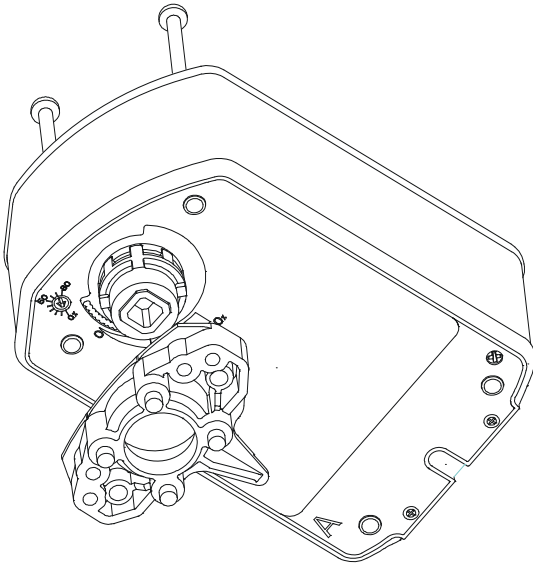

Figure 13: Installing the linkage
5. Install linkage base on Side A using the two #10 14 x 2.75 in long screws (Figure 13). The recommended torque is 20 to 24 lb·in. (2.3 to 2.7 N·m).